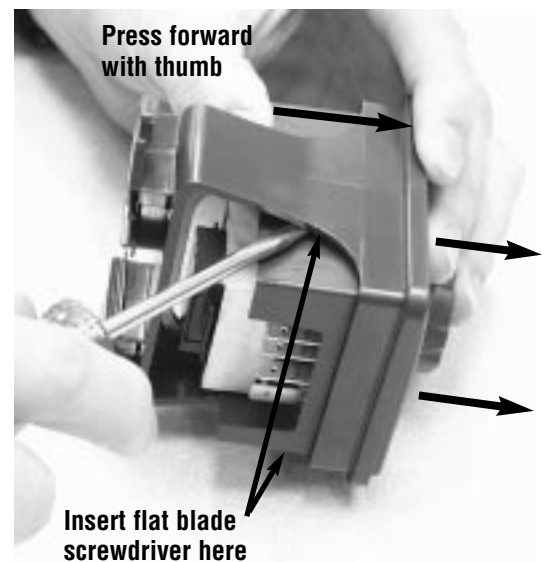

Figure 3b
4. Insert a flat blade screwdriver between the DIN rail bracket and the case. Rotate the screwdriver to release the DIN rail bracket hooks from the ridges on the case, while firmly pushing the controller out the front of the DIN rail bracket. Alternate back and forth between the top and then the bottom. Be sure to support the controller as it comes out of the bracket. See Figure 3b.